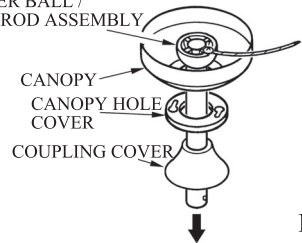

FIG.2
2. Insert the down rod through the center opening in the canopy, Canopy hole cover, coupling cover and route the motor leads through the hanger ball/downrod assembly. (see Fig.2)